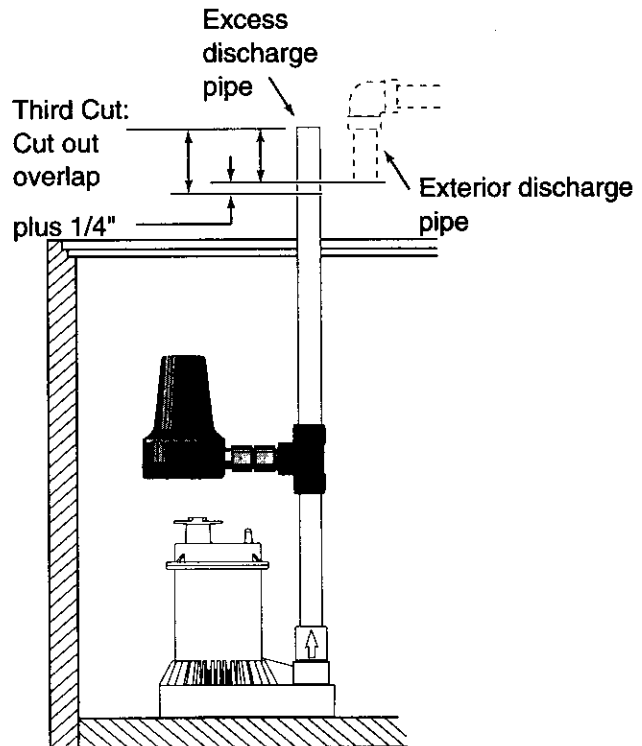

Figure 4 – Make a third cut to remove the excess discharge pipe
2. Mark the discharge pipe where it should be cut. Be sure to leave a 1/4" air gap between the ends of the pipes. This gap will absorb noise from vibration and allow for flexibility. See Figure 4, Page 5.
1. Put the double pump assembly back into the pit. See Figure 4.